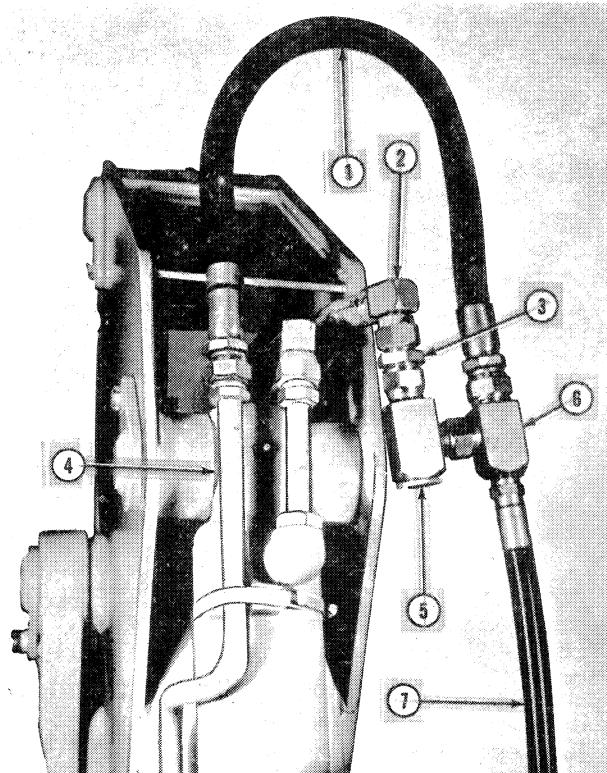

Figure 18
2. Disconnect the bucket cylinder rod hose at the bucket cylinder. Connect the CR3 check valve (5), Figure 18 to the bucket rod hose (2) using
2. Disconnect the bucket cylinder rod hose at the bucket cylinder. Connect the CR3 check valve (5), Figure 18, to the bucket rod hose (2) using the CR1 adapter (3). Connect the CR4 tee fitting (6) to the CR3 check valve. Connect the hose (1), Tool No. 292454, to the bucket cylinder rod tube and the CR4 fitting as shown. Also, connect the N1100-HS hose (7) to the CR4 fitting.
2. Disconnect the bucket cylinder rod hose at the bucket cylinder. Refer to Figure 18 and install the test equipment. However, the 292454 hose (1) can be eliminated and a N-109 double female swivel used in its place. The backhoe shown in Figure 18 is equipped with a standard dipstick.
2. Disconnect the bucket cylinder rod hose at the bucket cylinder. Connect the CR3 check valve (5), Figure 18, to the bucket rod hose (2) using the CR1 adapter (3). Connect the CR4 tee fitting (6) to the CR3 check valve. Connect the hose (1), Tool No. 292454 to the bucket cylinder rod tube and the CR4 fitting as shown. Also, connect the N1100-HS hose (7) to the CR4 fitting as shown.